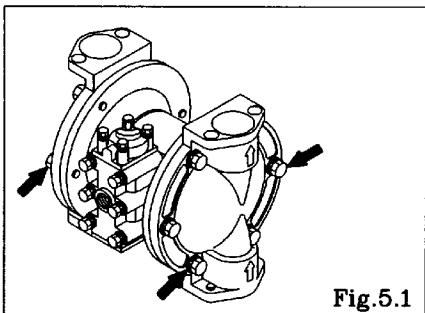

Fig.5.1
See [9. Exploded View] on after p. 11. (Fig. 5.1 shows the NDP-20 BS□.)
- Remove the 12 retainer bolts from the out chamber, and remove the out chamber. [Fig.5.1]